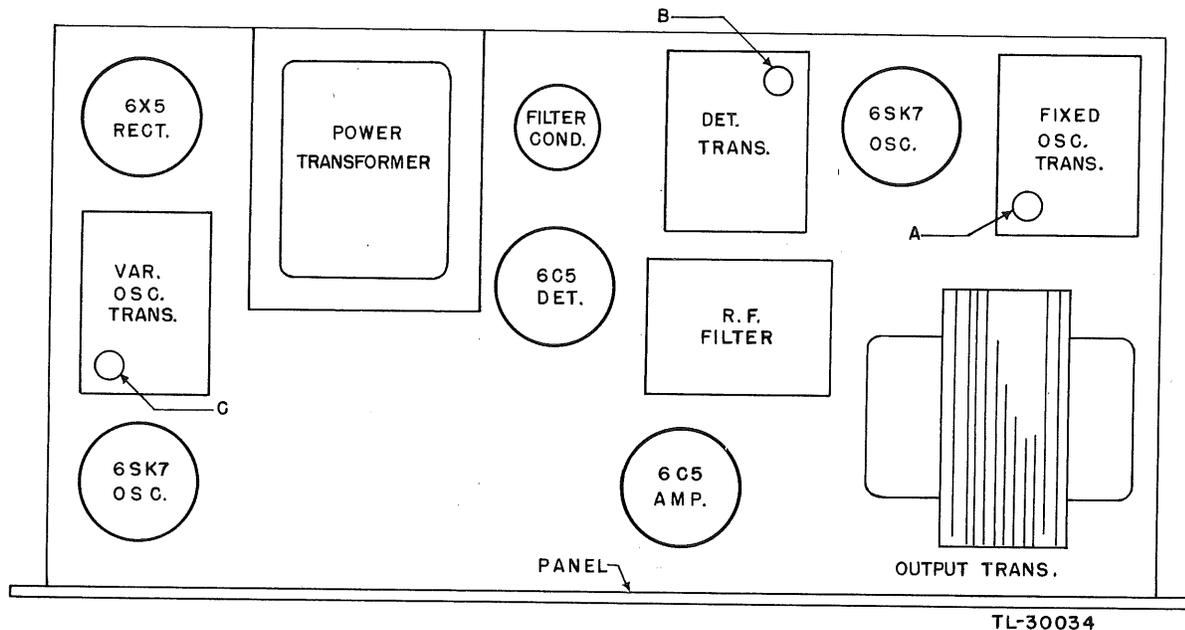
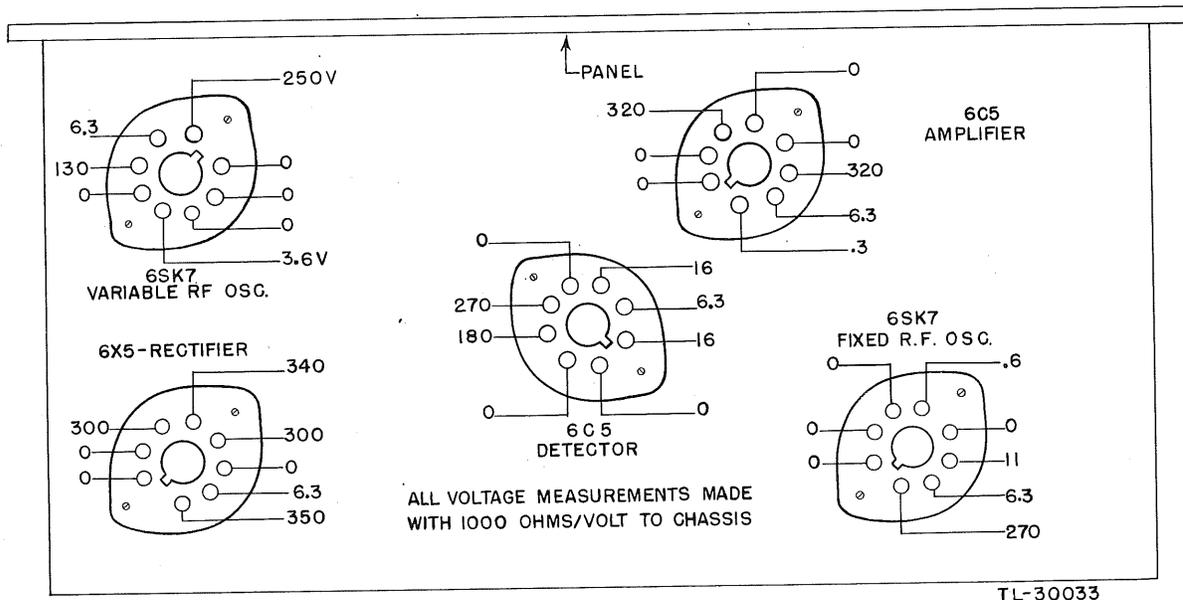

Figure 44. Audio oscillator, Supreme model 563, chassis arrangement.
Figure 45. Audio oscillator, Supreme model 563, tube-socket voltages to ground.
a. *General.* (1) Audio oscillator Supreme model 563 is a precision instrument, and no maintenance will be attempted by inexperienced personnel.
(2) Complete maintenance on this audio oscillator will consist chiefly of tube replacement and, to a lesser extent, replacement of component parts. Fault location can be ascertained by continuity tests, resistance measurements, voltage readings, signal tracing, and visual inspection.
(3) Figure 44 is a diagram of the chassis layout and figure 45 shows the arrangement (bottom view) and voltage measurements of tube sockets. The schematic diagram (fig. 46) contains information regarding tube bases, power-supply voltages, and values of component parts.
b. Frequency Instability. (1) Since the audio-frequency voltages are obtained by tuning a variable-frequency oscillator, any undesired influences which affect the frequency of either oscillator will cause frequency instability. In practice, frequency instability is generally caused by changes in tube characteristics, wide fluctuations in line voltage, and mechanical troubles, such as wear on tuning-capacitor bearings, loosening of screws which anchor components to the chassis, and defective grounding contacts. All these troubles which cause small variations in the circuit capacitance across tuned circuits affect the frequency, and at low frequencies the percentage variation in frequency may be considerable.
(2) If the characteristics of the tubes used as the variable- and fixed-frequency oscillators are not similar, some instability may be caused, particularly at low frequencies. If it becomes necessary after a period of use to replace one of the oscillator tubes, it is a good idea to replace both, choosing a pair of tubes which give most stable operation in the beat-frequency oscillator.
d. Tube Voltages. The actual condition of the circuits of the audio oscillator may be determined by measuring the d-c voltages at the various tube elements. Figure 45 is a bottom view of the tube-base layout and shows the normal voltage at each tube element. These voltages are measured with respect to chassis and should not vary more than $\pm 20\%$. Greater variations represent trouble in the particular circuit being tested. These voltages are measured with a standard 1,000-ohm-per-volt meter.
e. Recalibration Procedure. (1) With the instrument removed from the case, place it in operation as described in paragraph 151.
(2) Set the tuning capacitor completely out of mesh, and check to see that the reference line of the dial coincides with the indicator line on the panel.
(3) Connect the 5,000-ohm impedance-matching binding posts to the vertical input circuit of an oscilloscope.
(4) Some standard source of signal is required: either an accurately calibrated laboratory a-f oscillator or an accurate crystal-controlled oscillator, such as Calibrator I-168.
(5) Connect this standard source of signal directly into the horizontal plates of the oscilloscope without going through the sweep circuit, and set the standard source of signal at 15,000 cycles if that frequency is within its range.
(6) Set the dial of the Supreme model 563 oscillator at 15,000 cycles and rotate the dial to either side of this setting until a stationary circle, ellipse, or slanted straight line is obtained on the oscilloscope screen, indicating that the frequency of the Supreme model 563 is equal to the frequency of the standard signal generator.
(7) Unless there is trouble in the instrument being calibrated, the point reached in operation (6) should be very close to the 15M mark on the dial. Note the error in the dial reading and, should it be low (say at 14M), turn trimmer adjustment A (fig. 44) in a counterclockwise direction, approximately $\frac{1}{3}$ revolution. Reset the dial to the 0 mark and adjust trimmer screw C (fig. 44) until zero beat is indicated by the neon light. Again check the calibration at the 15M mark, using the oscilloscope as an indicator and using the standard 15M-cycle signal as a reference.
(8) Repeat this procedure until the 15M mark is correctly calibrated. After each adjustment of trimmer capacitor A it is necessary to reset the dial to the 0 mark and to obtain the zero-beat by adjusting trimmer screw C.
(9) In cases where the initial error in the dial reading is high rather than low, adjust screw A in a clockwise direction rather than counterclockwise and proceed as described above (subpar. (7)).
(10) Adjust screw B (fig. 44) for maximum output as indicated on the oscilloscope. Set CAL. ADJ. control to 5 and main tuning dial to the 0 mark. Zero-beat the instrument by adjusting screw C. This places the CAL. ADJ. control in the position that will give the greatest variation from zero beat. Unless the capacitor plates have been bent, the remainder of the dial will now be calibrated.
(11) If it is desired to check other points than both ends of the scale, set the standard source of a-f sig-